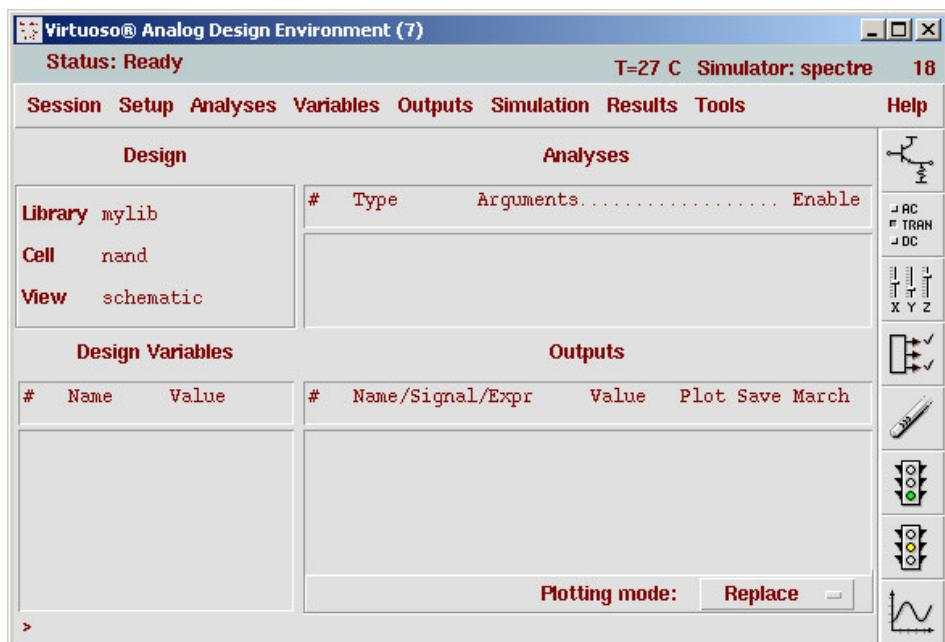

Figure 49. Virtuoso Analog Design Environment
1. In the **Virtuoso Schematic Editor** window, click **Tools**, then **Analog Environment**. The analog environment will open another schematic view and will probably re-organize all your windows. Most importantly, the **Virtuoso Analog Design Environment** window will pop up as in Figure 49.